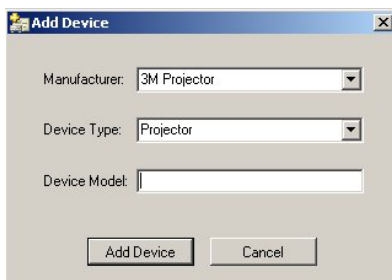

FIG. 77 Add Device dialog
2. In the Device Selection area, click the **Add** button. The *Add Device* dialog opens (FIG. 77).